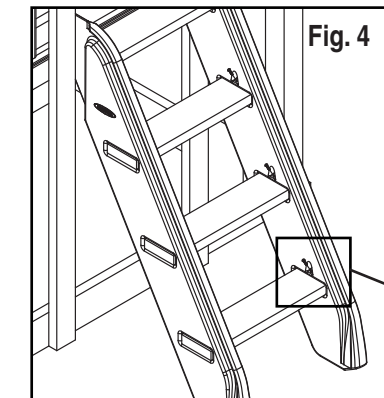

Fig. 4
4. Make sure that all the standard steps are flush with the outside sides of the Climbing Steps Assembly. Secure each step to the side rails using two #14 x 1¼" pan head screws for each step as shown. (Fig. 4)